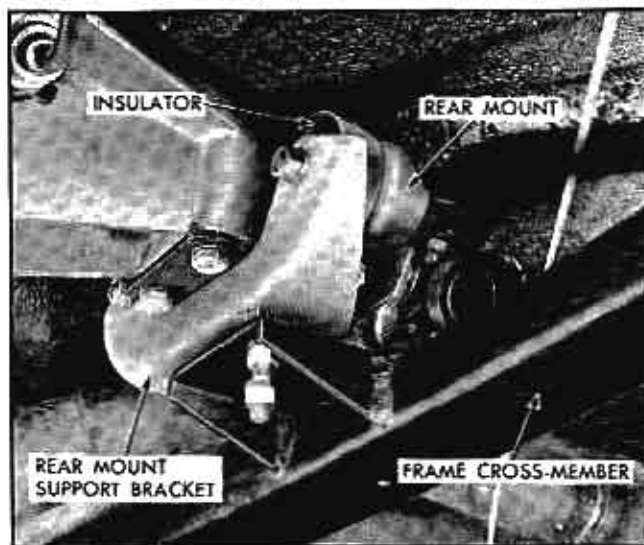

Fig. 44 Rear Mount Assembly
15. Remove two rear mount support to frame crossmember nuts (Fig. 44).